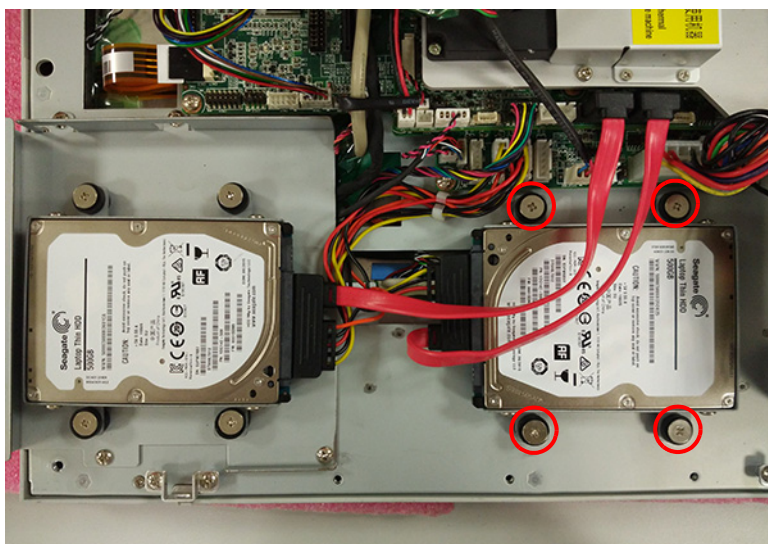

Figure 2.19
4. Return to the original position, then connect HDD cable to the mainboard. (See Fig 2.19)